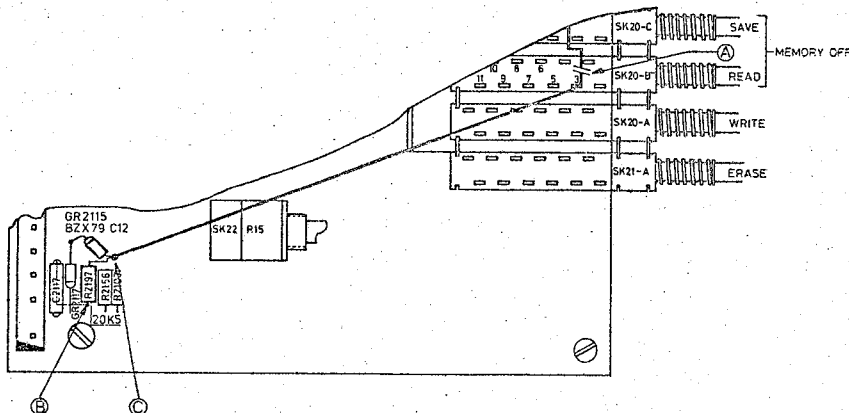

Fig. 1. Part of variable persistence and storage unit.
2. Interrupt the track (on the track-side of the p.w.b.) between point 3 of SK20B (READ) and the anode of GR2117 as indicated in fig. 1 (A)
4. Solder one side of a resistor of 20k5 (5322 116 55255) on the point, which is connected with C2117 as indicated in fig. 1 (B) (on the component side of the p.w.b.)
5. Solder between the resistor of 20k5 and the anode of the zenerdiode GR2117 a zenerdiode (GR2115) BZX 79 C12 (4822 130 34197). The cathode of GR2115 to the anode of GR2117 (see fig. 1)
6. Mount an interconnection wire between the anode of GR2115 (fig. 1 (C)) and point 3 of the switch SK20B (READ)